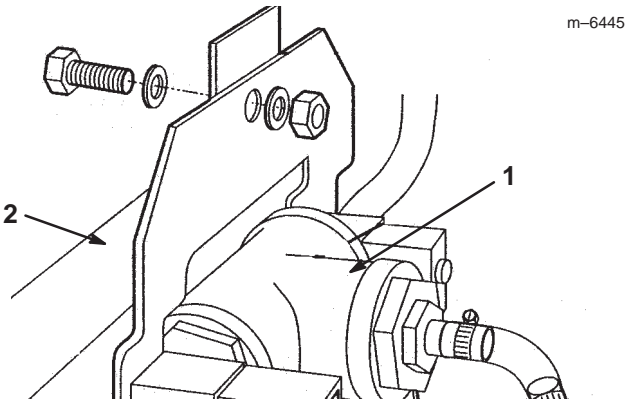

Figure 2
- Mount the mixer assembly to the angle on the center boom assembly with a bolt (3/8 x 1 in.), flat washer, and locknut (Fig. 2).